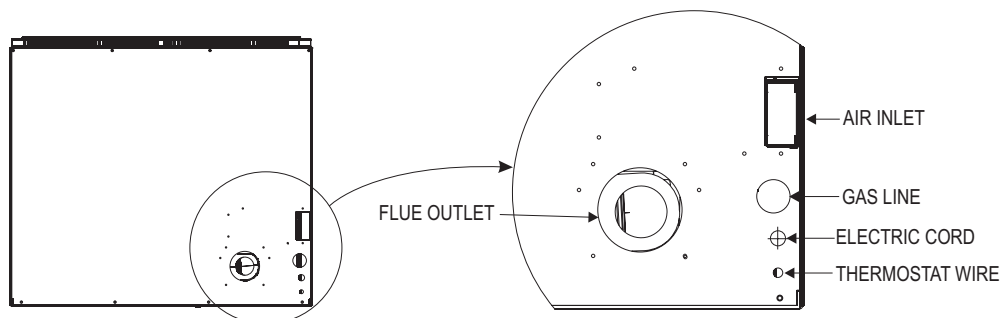
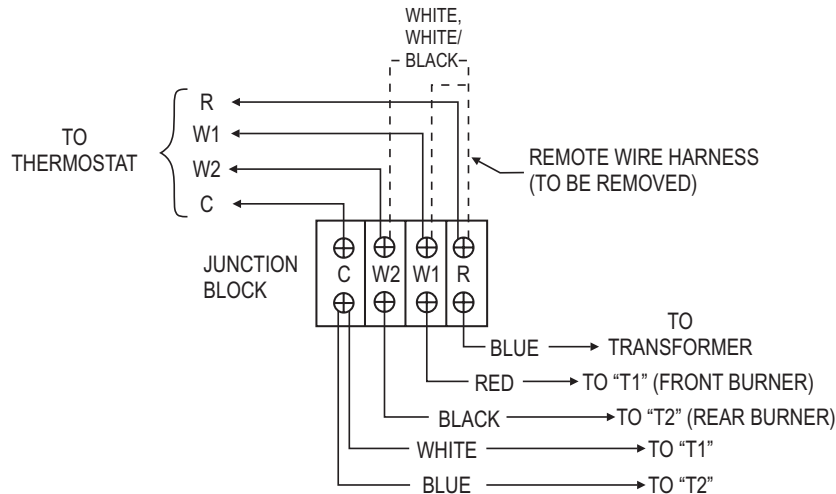

Figure 69
Figure 70
Determine mounting location of thermostat. Using standard 18 AWG wire, run four (4) strands of wire into rear of Mantis (See Figure 69) to junction block. Cut wire to correct length. Remove blue jumper wire from junction block and save for future use. Connect four (4) new thermostat wires to Mantis using schematic. See Figure 70.